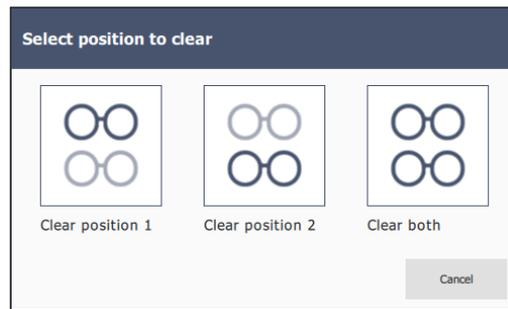

Figure 28: Clear position pop up.
**Clear spectacles button:** this button allows the user to clear one of the positions. Click and use the following pop up (Figure 28) to select the position to be cleared.